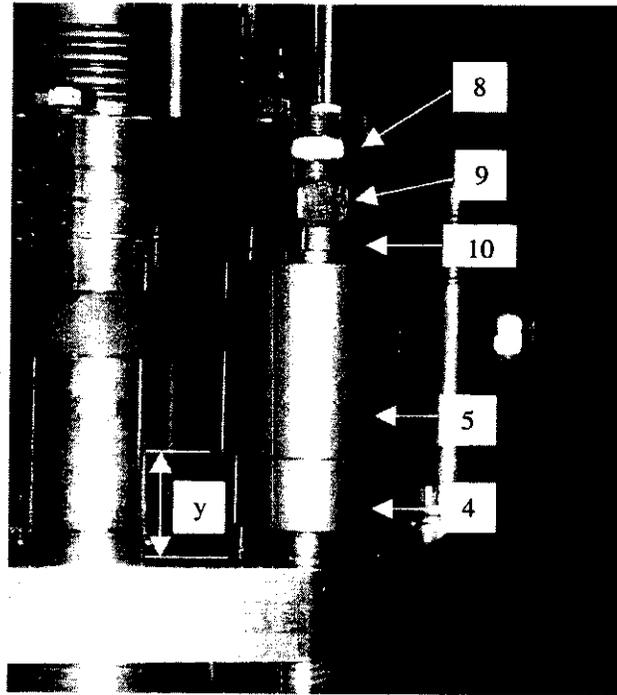

Figure 1.28a An installed Belleville Washer Assembly.
- 1.28** Install Belleville Washer Assemblies on each tensioning stud per Figures 1.28a and 1.28b. A spherical washer must be placed below the Belleville washer holder on each stud. In the figures: Items 11 (10 each) are Belleville Washers, arranged as shown; Items 6 (2 each) are flat washers; Items 4 and 5 are the Belleville Washer Holder; Item 10 are Spherical Washers for above and below the washer holder; Item 9 is a loading nut; and Item 8 is a jam nut.
1.29.1.2 Tighten the 6 loading nuts finger-tight. With adjustable parallels, measure and record the gap "y" indicated in Figure 1.28a between Item 5 and the current lead top flange at the 6 locations specified in Figure 1.29.1.5. Units are mm.
1.29.1.5 Record the final measured gaps 'y' in Figure 1.28a. Units are mm.
1.29.2.2 Tighten the 6 loading nuts finger-tight. With adjustable parallels, measure and record the gap "y" indicated in Figure 1.28a between Item 5 and the current lead top flange at the 6 locations specified in Figure 1.29.1.5. Units are mm.
1.29.2.5 Record the final measured gaps 'y' in Figure 1.28a. Units are mm.